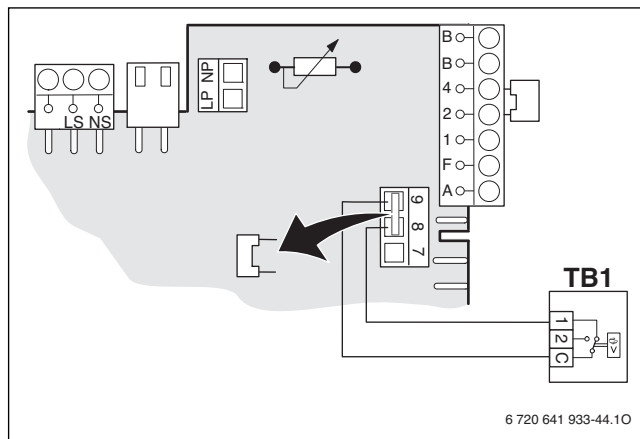

Fig. 39 Electrical wiring TB 1
- ▶ Connect the leads labeled SWITCH CONTACT (yellow) to the TB1 temperature switch (→ Fig. 39, page 34) on the Heatronic.